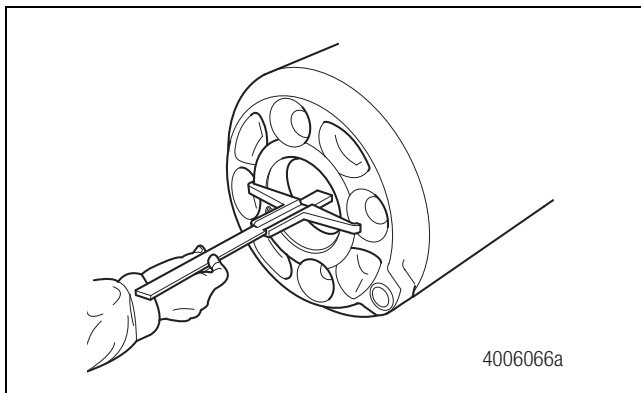

Figure 5.26
- A. Measure the distance between the sun gear thrust washer and the face of the hub housing. This is dimension A. Figure 5.26.